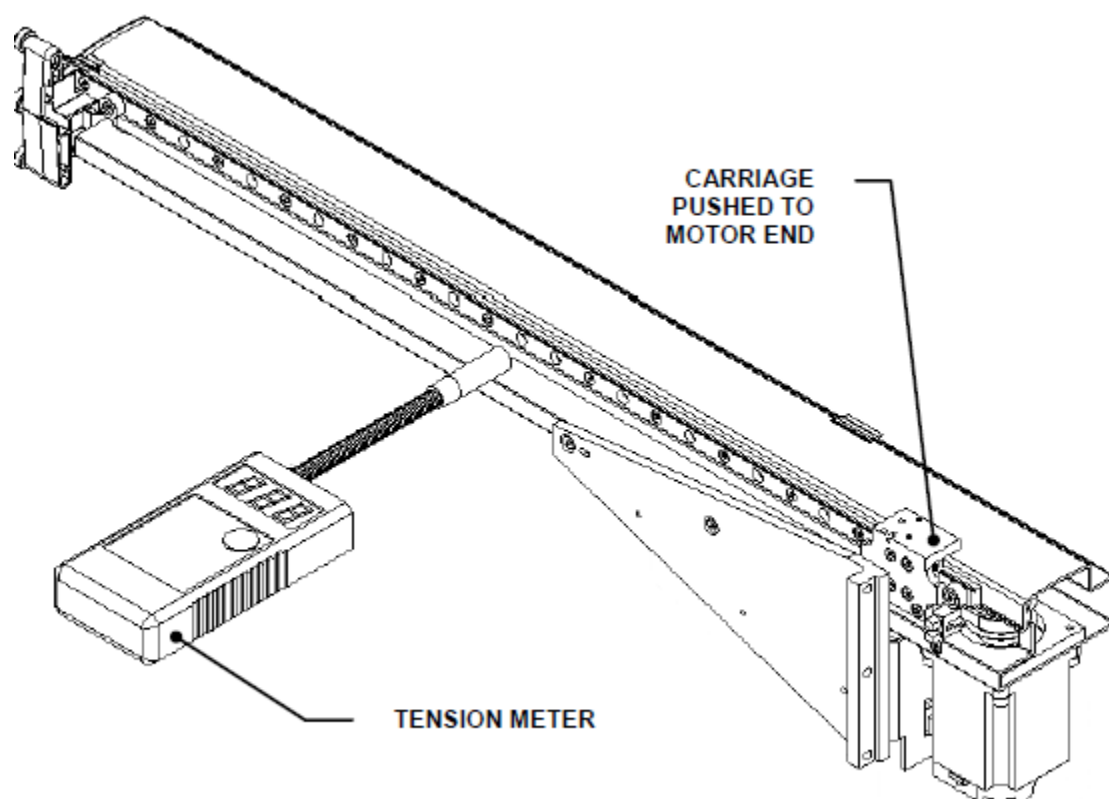

Figure T-12: Location of Carriage for Tension Adjustment
8. Move the Sample Pipette Y Drive Carriage to the end of its travel nearest the motor as shown in Figure T-12.